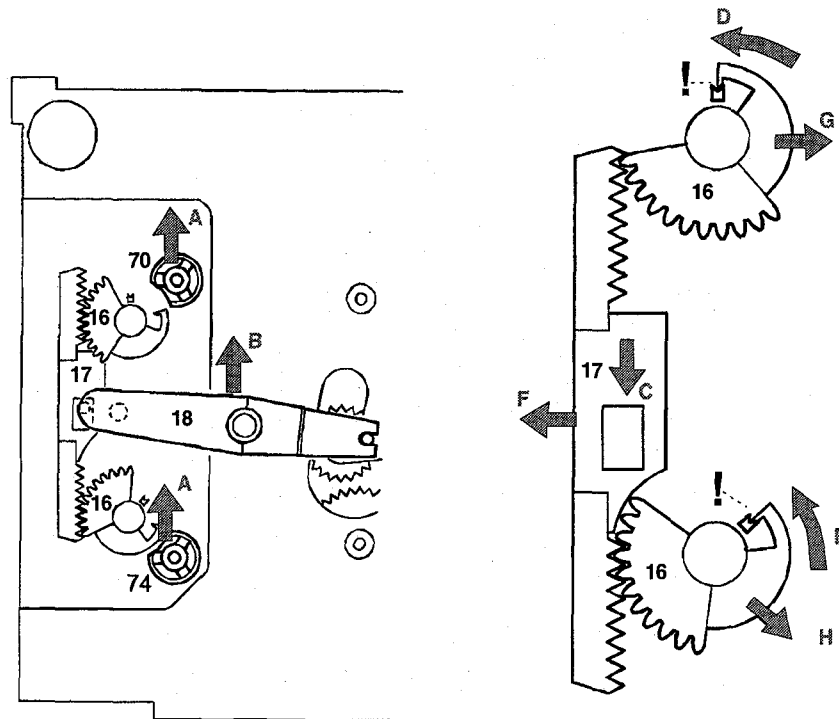

Fig. 6
- 11.3 Put control pins into mounting position acc. fig.6-D,E